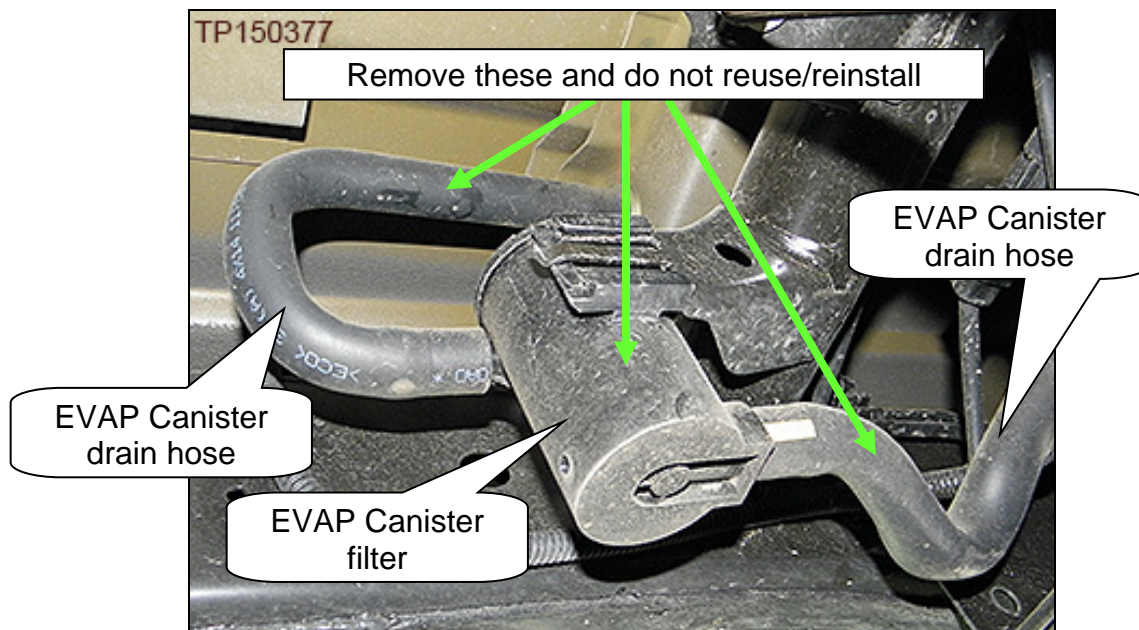

Figure 1
- EVAP Canister drain hose(s) and filter (if equipped) that connect to the vent control valve (Figure 1)
- The new canister drain hose (drain hose) replaces the drain hose(s) and filter (if equipped) that connect to the vent control valve (Figure 1). **The existing drain hose(s) and filter will not be reinstalled.**